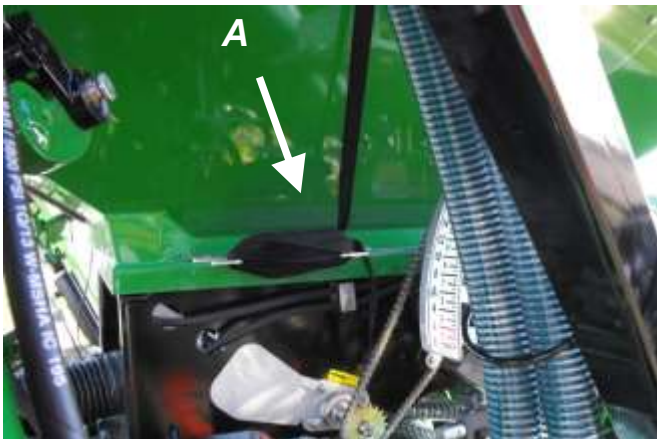

Figure 15C
7. To close the tarp, rotate the wheel the other way or you can use the strap stored on the left side of the hopper. [Figure 15C, A]. Roll the tarp on itself upward. Make sure the gear is aligned with the locking lever. When you're at the end of the hopper use the locking lever to bind the tarp.